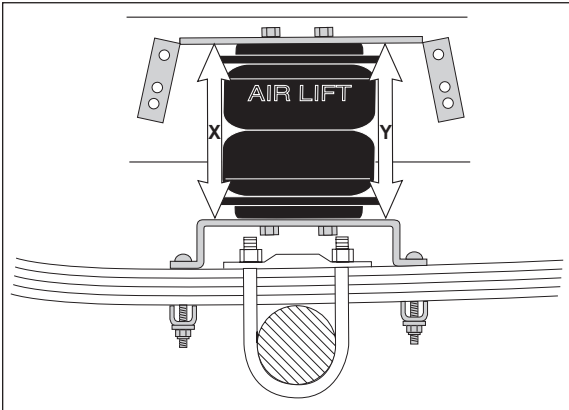

Figure 7
6. Check the upper to lower bracket measurement to ensure that it is still between 4.5" to 6.5" on the side of the center punched hole (in Figure 7, measurement X must equal measurements Y, as well as between 4.5" to 6.5").
7. Drill one $\frac{3}{8}$ " hole in the previously marked location and loosely install a frame bolt (I), an oversized flat washer (J), and a nylock nut (K).
8. Measure the upper to lower bracket clearance on the other side of the upper bracket. This measurement should be equal to the measurement of the other side of the upper bracket (in Figure 7, measurements X must equal measurement Y, as well as be between 4.5" to 6.5").